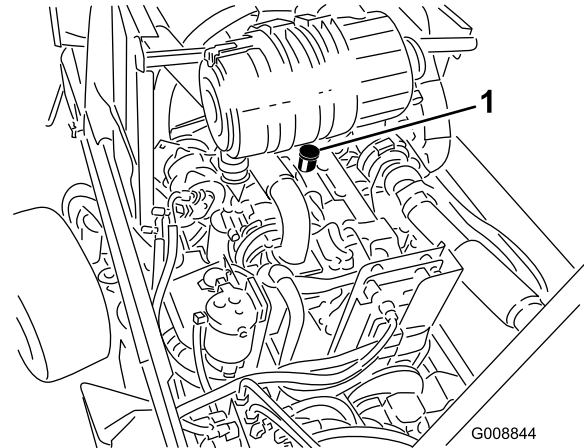

Figure 62
3. If the oil is below the Low mark, remove the fill cap (Figure 62) and add oil until the level reaches the Full mark. **Do not overfill.**